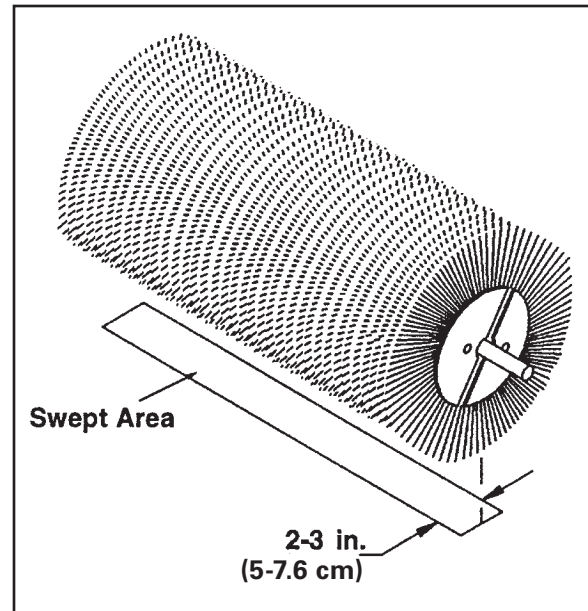

Figure 18
4. Raise the sweep and back away; switch off the engine and remove the key. The brush pattern left in the dust should be 2-3" wide, running the entire length of the brush. (Compare the swept area with Figure 18.)